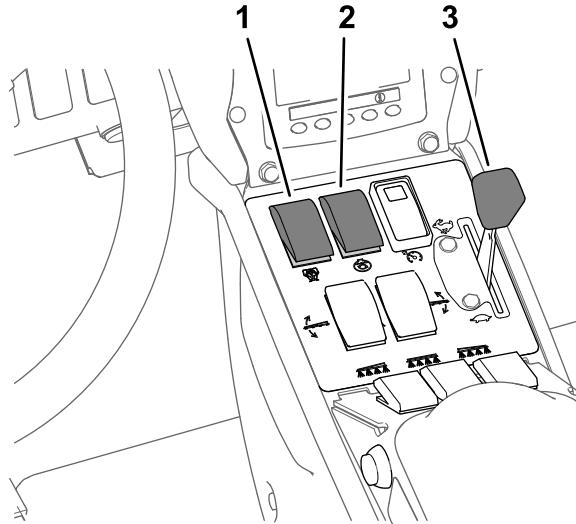

Figure 40
8. Set the agitation switch and the spray-pump switch to the ON position (Figure 40).
9. Set the throttle to the FAST position (Figure 40).
Note: This procedure assumes that the spray pump is on; refer to Figure 40 in Spraying in the Application Rate Mode \(page 35\).
4. Adjust the throttle to the desired engine speed to spray; refer to Figure 40 in Spraying in the Application Rate Mode \(page 35\).